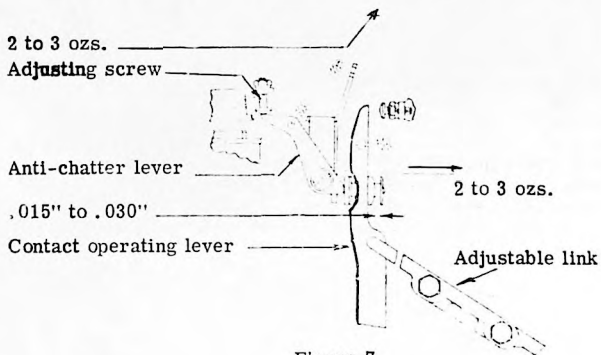

Figure 7
21. PUNCH CONTACT SPRING TENSION (Figure 7)
24. PUNCH CONTACT OPERATING LEVER LINK ADJUSTMENT (Figure 7)